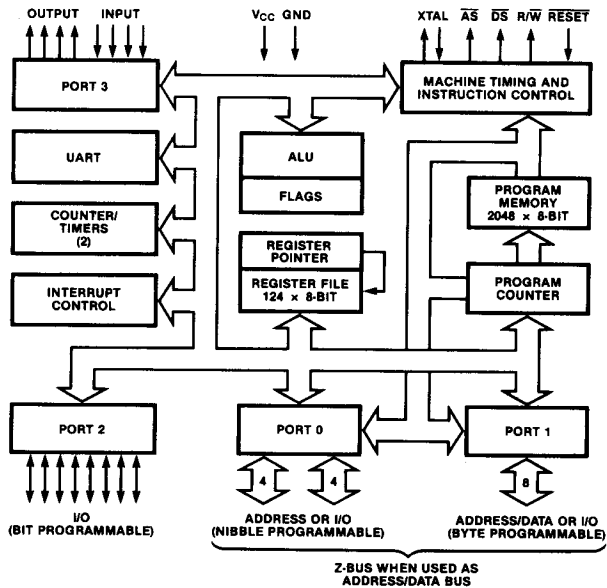

Figure 3. Functional Block Diagram
To unburden the program from coping with real-time problems such as serial data communication and counting/timing, an asynchronous receiver/transmitter (UART) and two counter/timers with a large number of user-selectable modes are offered on-chip. Hardware support for the UART is minimized because one of the on-chip timers supplies the bit rate. Figure 3 shows the Z8681/82 block diagram.
**P00-P07, P20-P27, P30-P37.** *I/O Port Lines* (input/outputs, TTL-compatible). These 24 lines are divided into three 8-bit I/O ports that can be configured under program control for I/O or external memory interface (Figure 3).